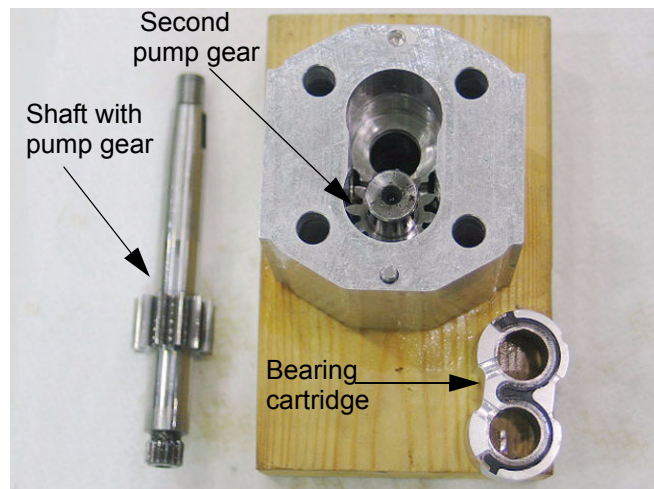

Figure 10.7
10.7. There is a cartridge that slides into the pump body. See Figure 10.7.